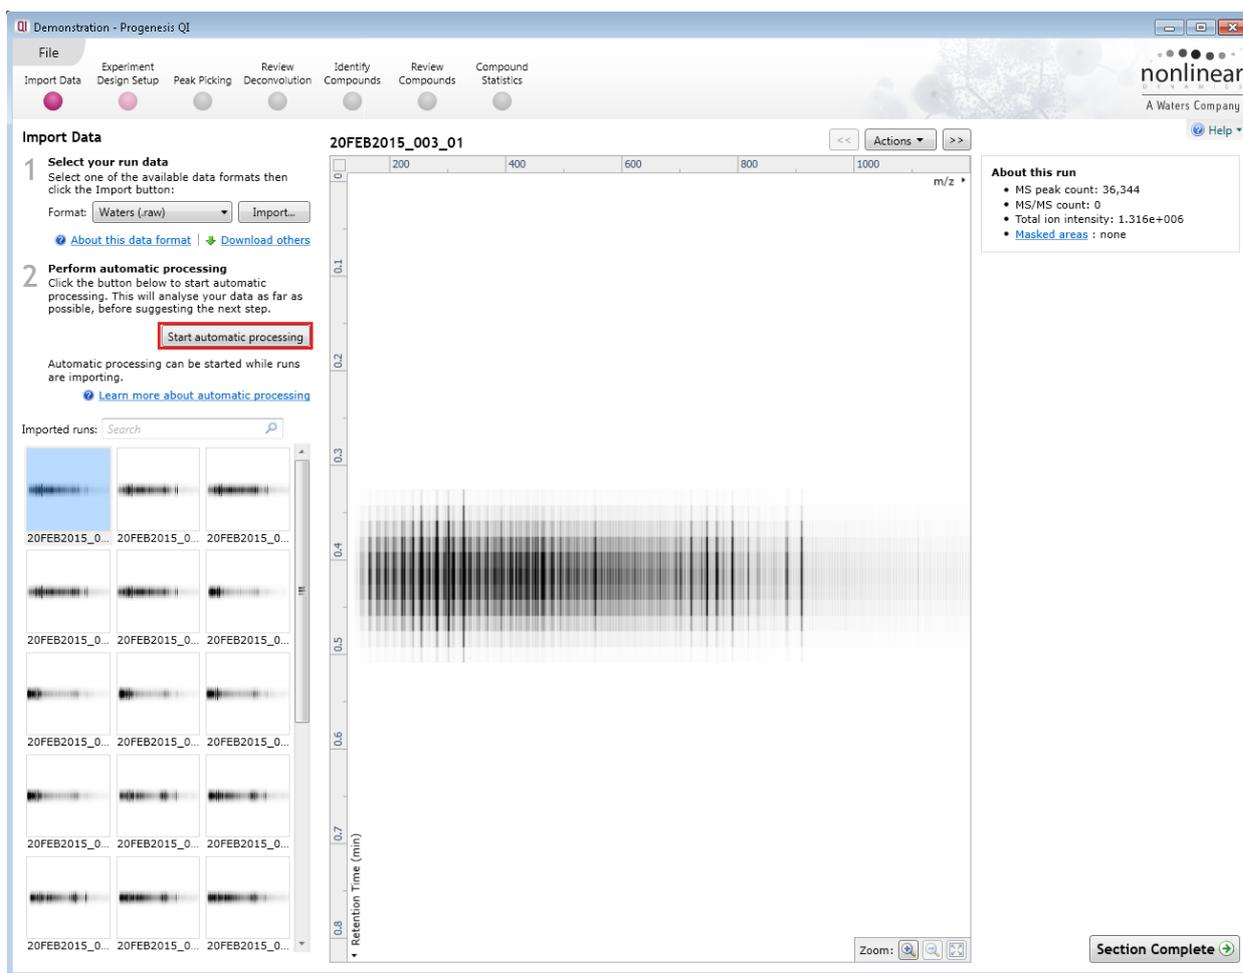

Figure 7: Completed import, with the **Start automatic processing** button highlighted.
1. Once your runs have imported, select **Start automatic processing** (Figure 7).